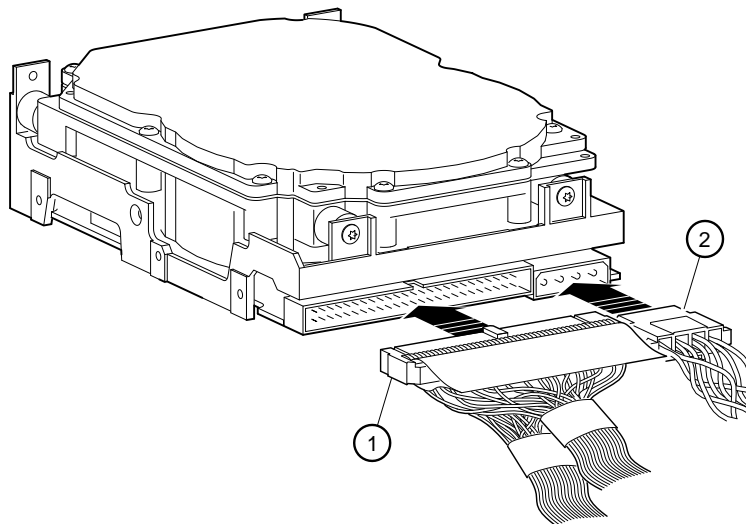

Figure 4-14 Cabling Hard Disks
5. Connect the bus cable ① and the power cable ② to the rear of the drive as Figure 4-14 shows.